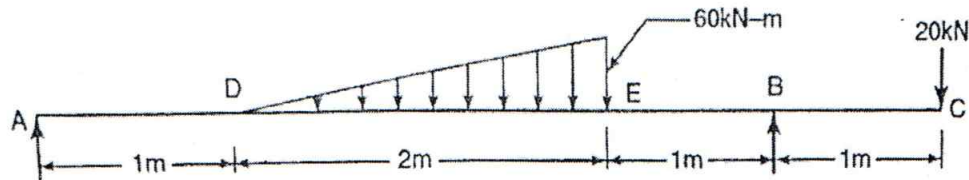

Figure Q3b
- b) An overhanging beam of span 5 m is loaded as shown in figure Q3b. Draw the SFD and BMD indicating all the significant values including the point of contraflexure. 12